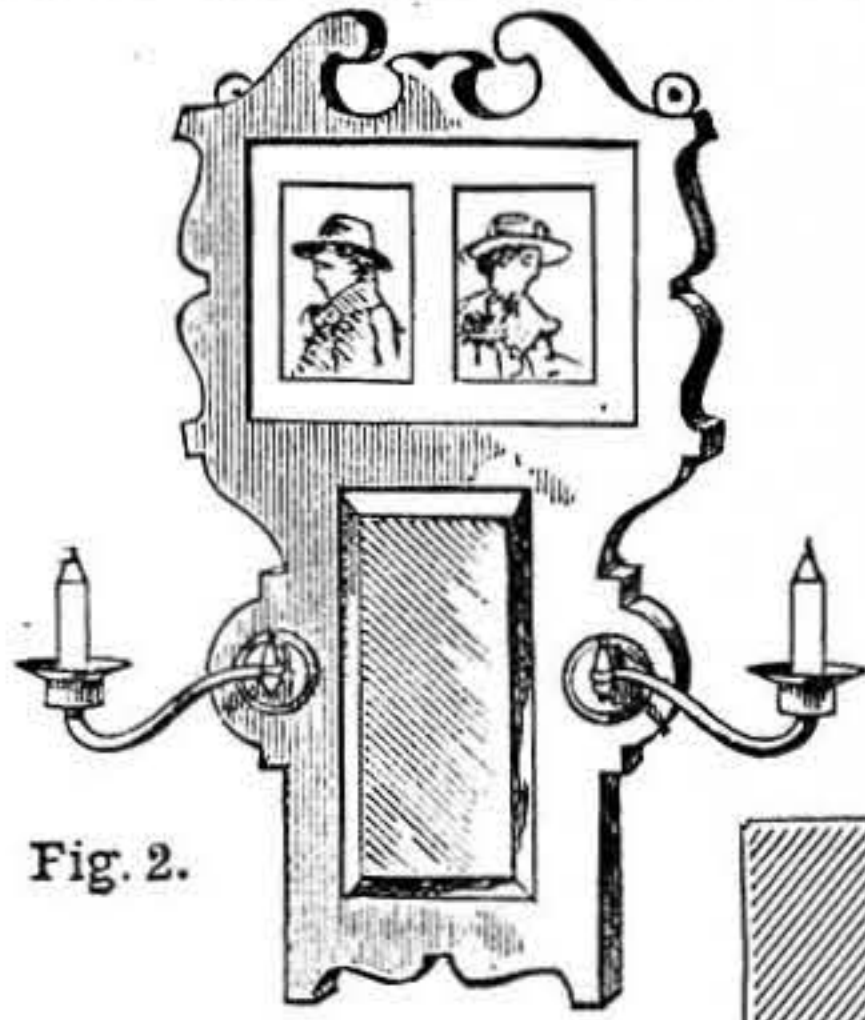

Fig. 2.
*Candle Sconces.*—The article sketched in Fig. 2 is of a different kind; it has no shelf, but has a pair of candle sconces attached. These may be had at various prices, from about 3s. per pair upwards, and they form a very great attraction both by day-light and by candle-light. The mirror between them catches and reflects their light, and the photos above could not be in a better position for being seen to advantage. This figure is also drawn one-eighth full size, and is made out of one piece of wood. A suggestion might be made as to placing a cabinet photograph where the mirror is, making the opening to suit; but unless specially desired to be so made, the mirror ought to have the preference.